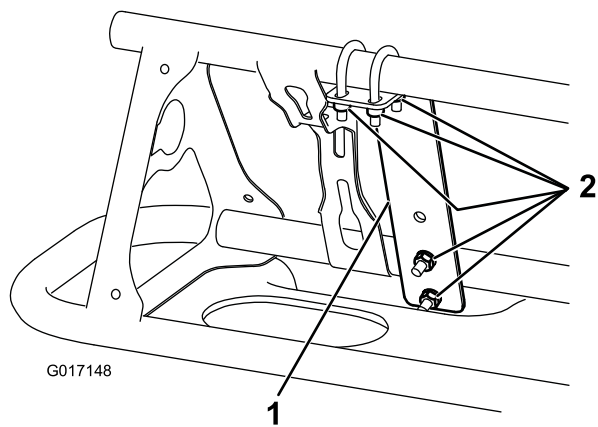

Figure 9
1. Install a mounting bracket on the front side of each boom near the outermost nozzle with 3 U-bolts and 6 locknuts (1/4 inch) (Figure 8 and Figure 9).